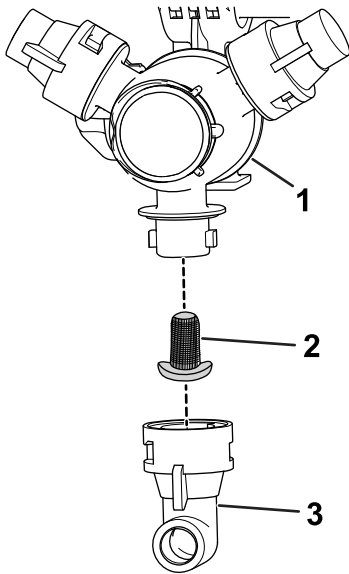

Figure 49
2. Remove the nozzle from the spray turret (Figure 49).
3. Remove the nozzle filter (Figure 49).
5. Install the nozzle filter (Figure 49).
6. Install the nozzle onto the spray turret (Figure 49).